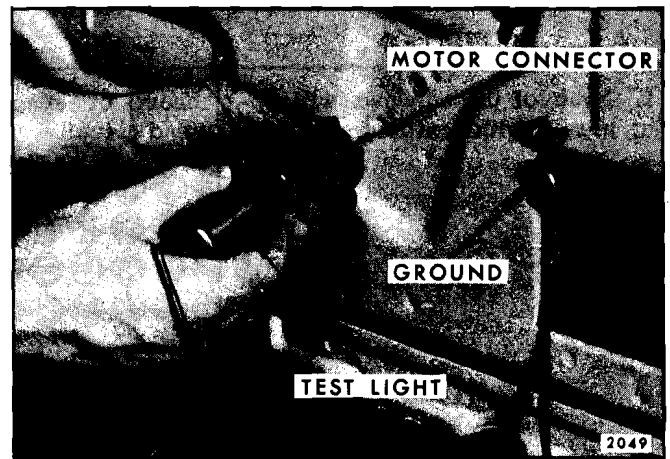

Fig. 16-8—Checking Circuit Between Switch and Motor
3. With test light, check for current at terminal being tested. If tester does not light, there is an open or short circuit in the harness between the control switch and motor connector (See Fig. 16-8).
2. With a test light, check for current at the corresponding terminal at the motor connector. If tester does not light, there is an open or short circuit between control switch and motor connector (See Fig. 16-8).